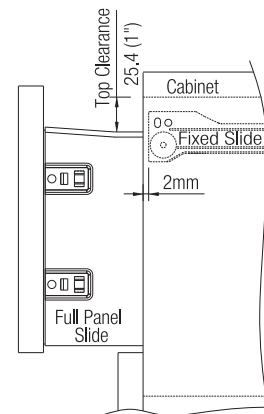

Fig. 2 SIDE VIEW
2. 25.4mm clearance from top edge of drawer required to tilt and remove drawer (Fig. 2).
3. Fixed slide should be set by 2mm for 'Auto-Closing' (Fig.2).